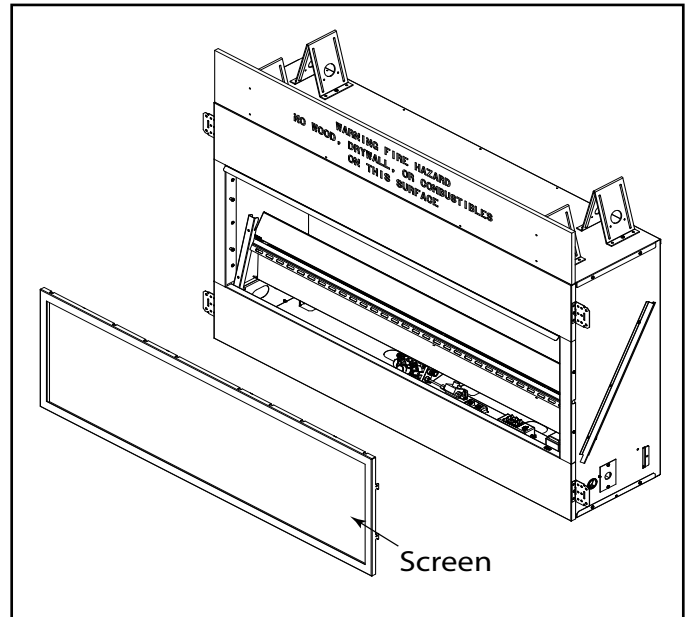

Figure 5.1 - Gas and Electrical Access - Remove Screen
- Remove screen from front of the appliance. See Figure 5.1.